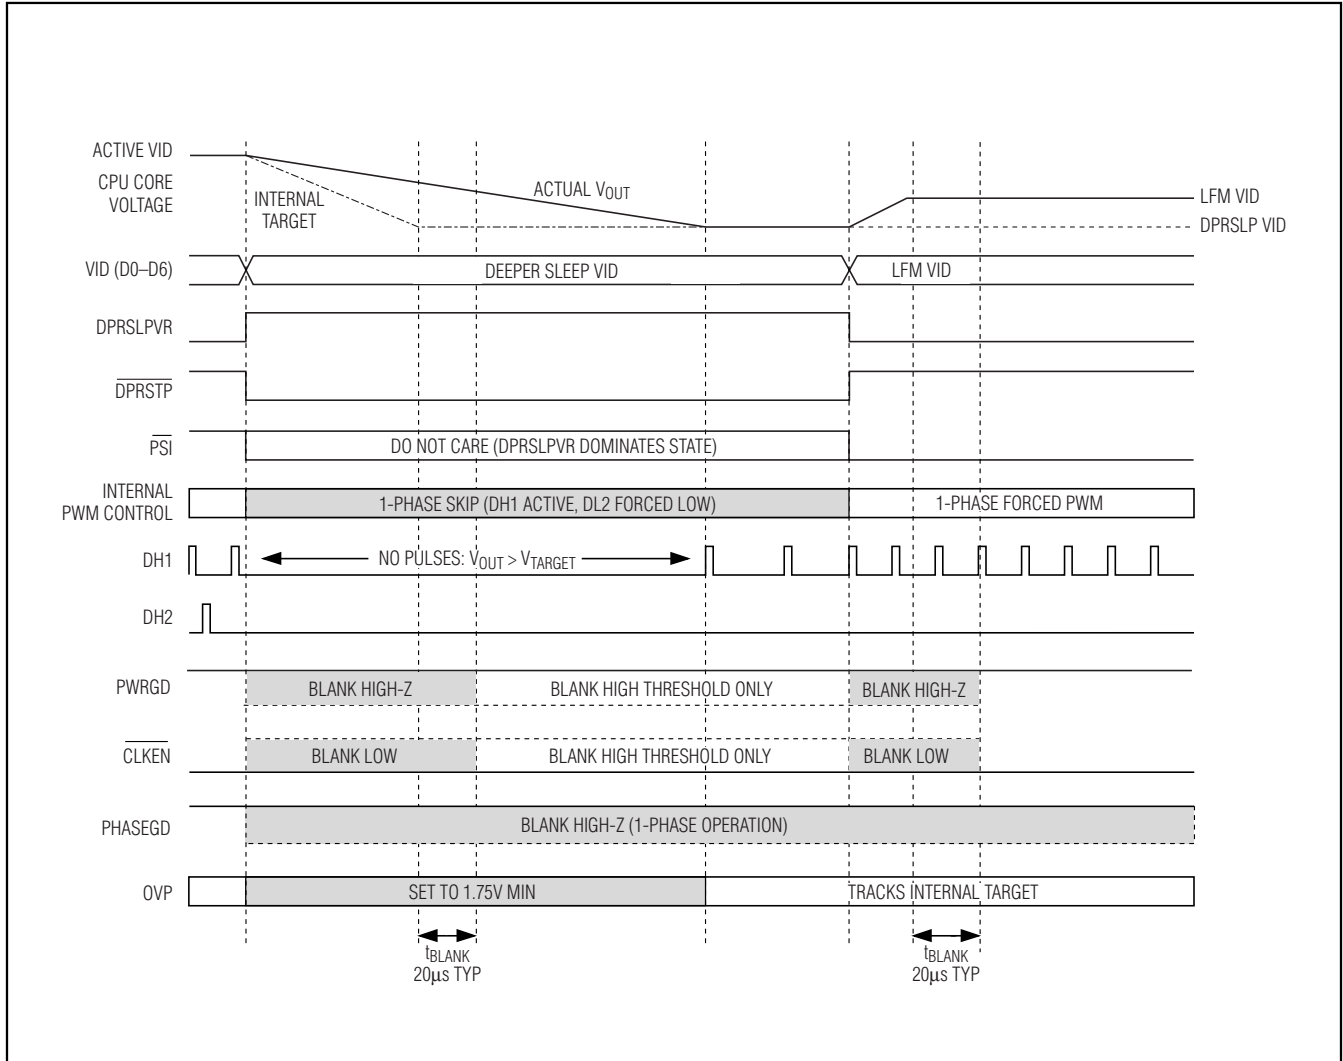

Figure 5. Standard C4 Transition
- Standard C4 Deeper Sleep Exit:** When exiting deeper sleep (DPRSLPVR pulled low) while the output voltage is regulating to the deeper sleep voltage, the MAX8770/MAX8771/MAX8772 immediately activate all enabled phases and ramp the output voltage to the LFM DAC code provided by the processor at the slew rate set by RTIME. The controller blanks PWRGD, PHASEGD, and $\overline{\text{CLKEN}}$ (forced high impedance) until 20 μs after the transition is completed. See Figure 5.